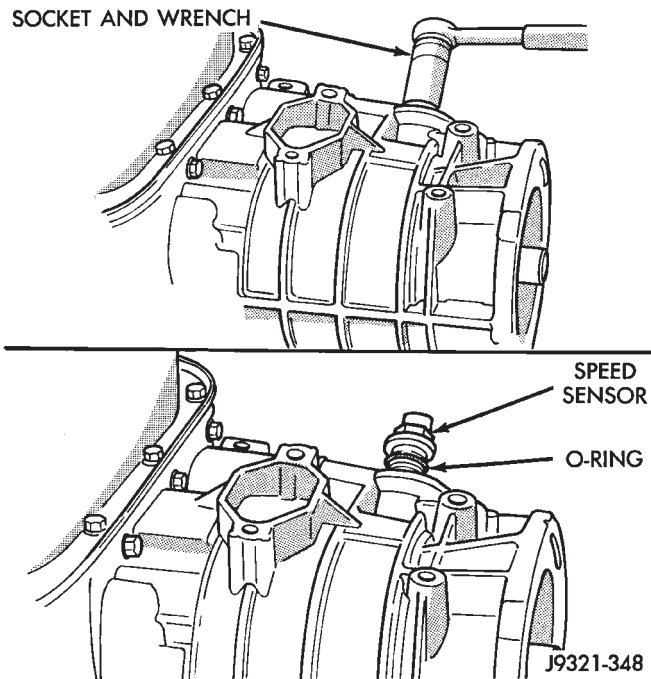

Fig. 1 Transmission Speed Sensor Removal/Installation
(61) Cap or cover transmission openings (cooler line fittings, filler tube bore, etc.) to prevent dirt entry.
(62) Install torque converter. Use C-clamp or metal strap to hold converter in place for installation.
(63) Install transmission speed sensor in overdrive case (Fig. 1).
(64) Mount transmission on jack for installation in vehicle.
(65) Apply dielectric grease to terminal pins of solenoid case connector and neutral switch.
(1) Remove transmission speed sensor and O-ring seal from overdrive case (Fig. 1).